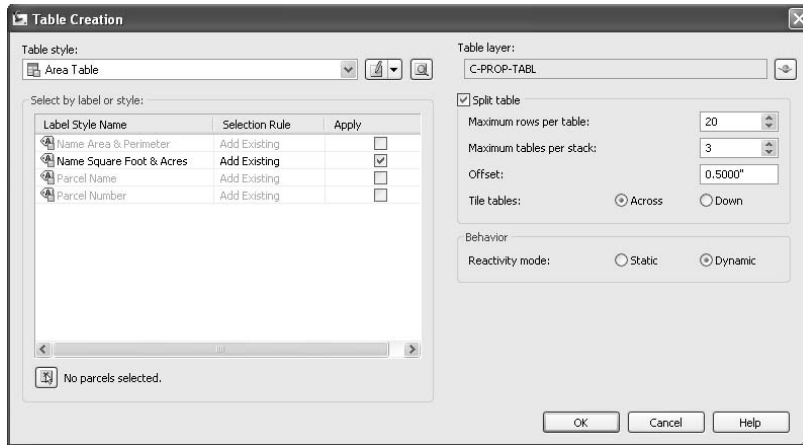

Figure 6.17
4. Check the box next to Name Square Foot & Acres. This will select all parcels labeled with the Name Square Foot & Acres label for the area table, as shown in Figure 6.17. Click OK.